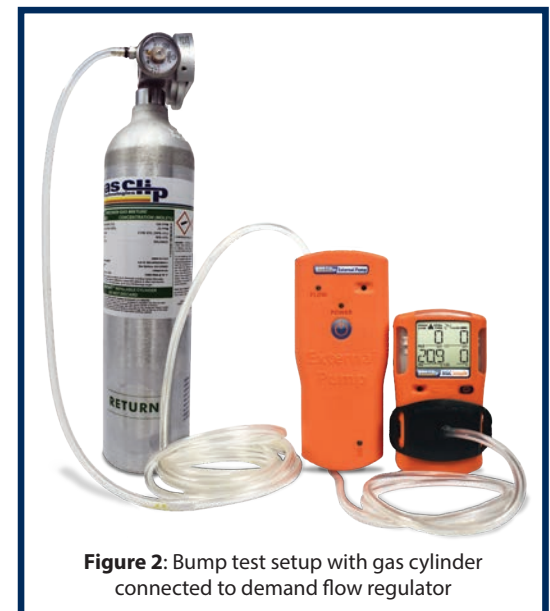

Figure 2: Bump test setup with gas cylinder connected to demand flow regulator
5. When the detector indicates it is time to apply gas, connect the sampling hose to the demand flow regulator on your gas cylinder as shown in **Figure 2**.